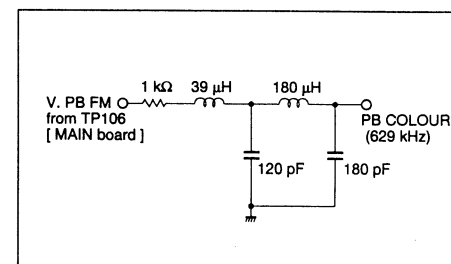
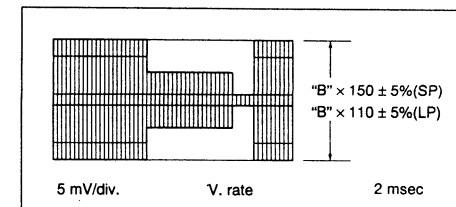

Fig. 3-3-4 LPF
Fig. 3-3-5 REC colour level
- (1) Connect an oscilloscope to PB COLOUR of a LPF (refer to Fig. 3-3-4) and TP111 (negative slope) on the MAIN board.
- (2) Playback the SP colour bar signal of the MH-2H alignment tape.
- (3) Adjust by pressing the CH "+" or "-" buttons of the Front panel for maximum level of the color waveform and make a note of the higher colour level "B".
- (4) Press the STOP/EJECT button and eject the MH-2H alignment tape.
- (5) Set the EVR mode by pressing the "K" button of the pre-setting unit.
- (6) Set "A : 2" by pressing 2 button of the remote controller.
- (7) Before recording, adjust the CH "+" or "-" buttons of the remote controller so that the higher level channel becomes $150 \pm 5\%$: SP ($110 \pm 5\%$: LP) of the note "B" level during playback as shown in Fig. 3-3-5.
- (8) Record a colour bar signal in the SP (LP) mode, and playback the recorded colour bar signal.
- (9) Set the normal VCR mode by pressing the "K" button again so adjustment data is memorized.